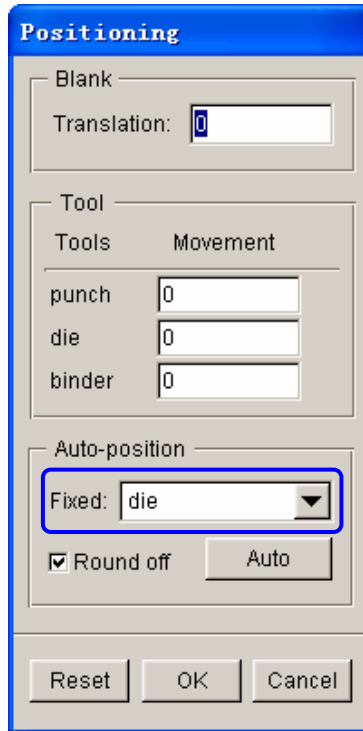

Figure 2.31 Before tools positioning
1. Click the **Positioning...** button located at the lower right corner of tool definition interface to display the **POSITIONING** dialog box illustrated in Figure 2.31. Alternatively, you can select **Tools→Positioning...** from the menu bar.